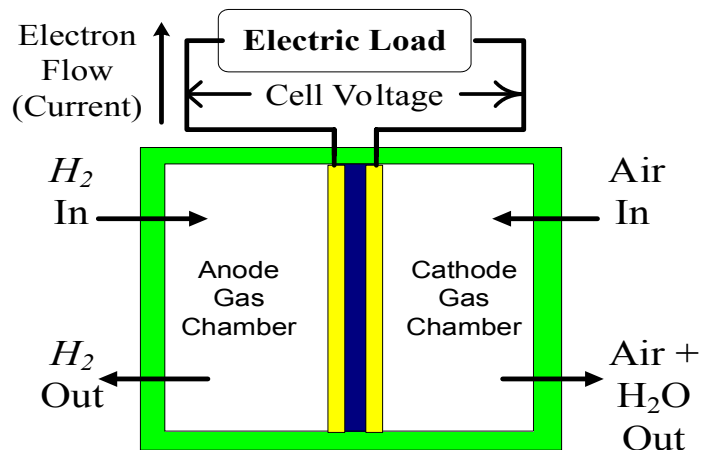

Figure 2: Principle of a proton membrane fuel cell
- Fuel cells are a promising alternative energy conversion technology. Most fuel cells use hydrogen as a fuel which reacts with oxygen to produce electricity. Different types of fuel cells are distinguished by the nature of the electrolyte. For example, a *proton exchange membrane fuel cell* (PEMFC) contains a polymer electrolyte that transports protons as shown in Figure 2.